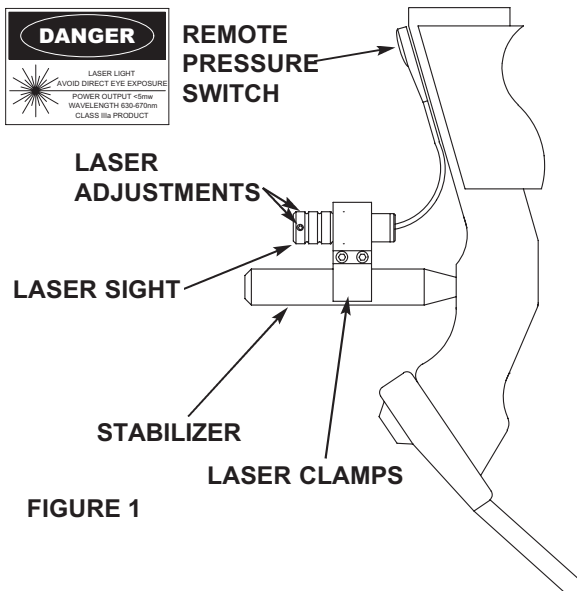

FIGURE 1
5) Attach the remote pressure switch in position by placing the sticky backed round velcro piece on your bow's riser in front of the grip area and then attach switch to it. (Refer to Figure 1)